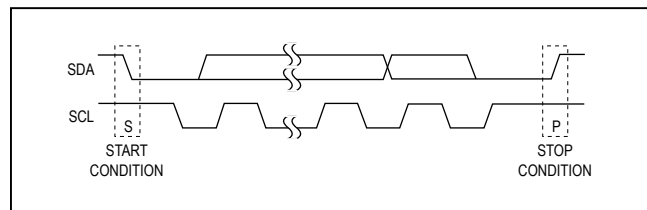

Figure 2. Start and Stop Conditions
Each transmission consists of a START condition sent by a master, followed by the MAX7324's 7-bit slave address plus R/W bit, 1 or more data bytes, and finally a STOP condition (Figure 2).
Both SCL and SDA remain high when the interface is not busy. A master signals the beginning of a transmission with a START (S) condition by transitioning SDA from high to low while SCL is high. When the master has finished communicating with the slave, the master issues a STOP (P) condition by transitioning SDA from low to high while SCL is high. The bus is then free for another transmission (Figure 2).